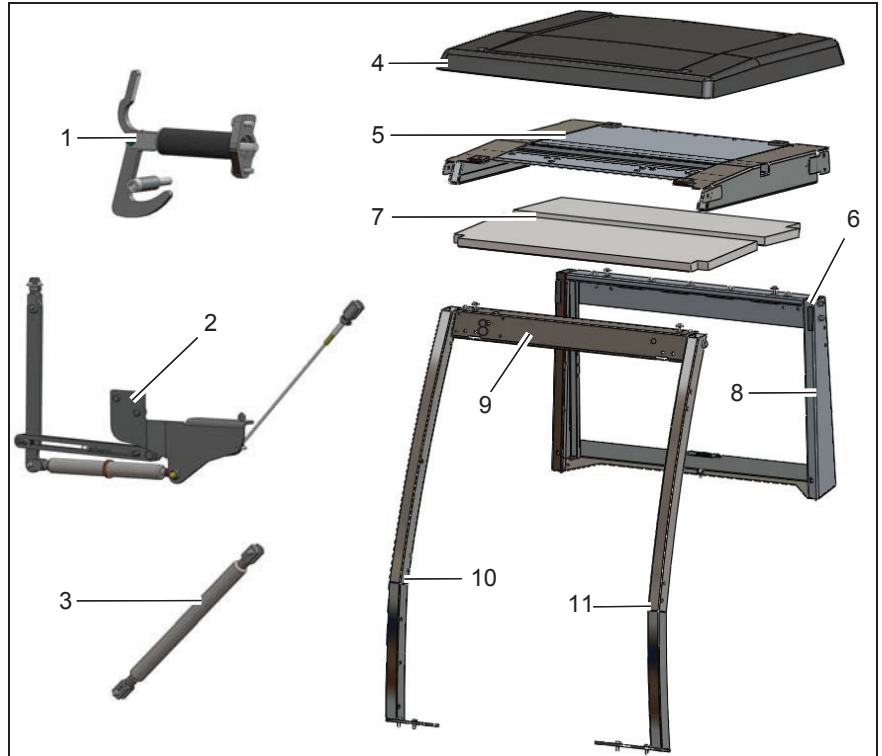

Fig.1
- Locking hook (Fig. 1/1)
- Retraction system (Fig. 1/2)
- Gas buffer (Fig. 1/3)
- Panel (Fig. 1/4)
- Roof with spacer plates (Fig. 1/5)
- Seals (Fig. 1/6)
- Insulation pads (Fig. 1/7)
- Rear frame (Fig. 1/8)
- Plate and angle bracket (Fig. 1/9)
- Right-hand frame (Fig. 1/10)
- Left-hand frame (Fig. 1/11)